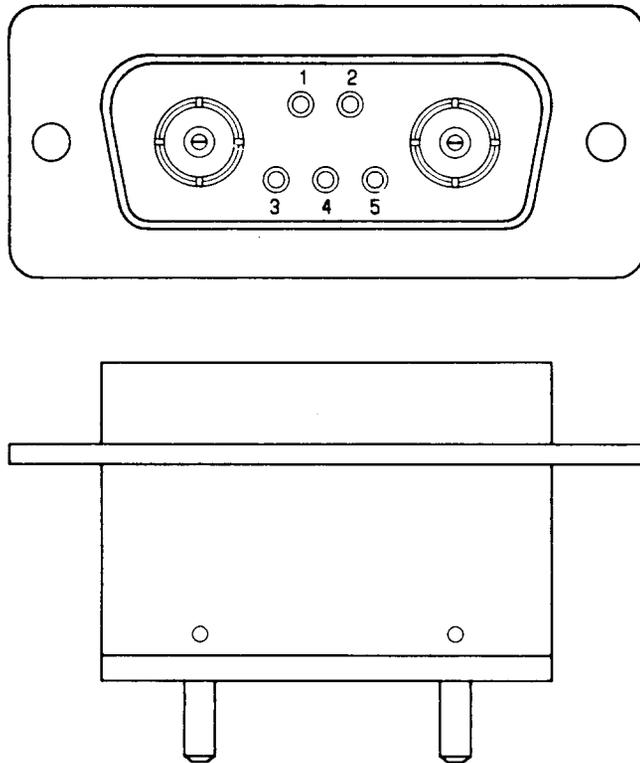

Fig. 3—KS-20938, L1 or L2 Connector
**2.03 KS-20938, L1 and L2:** The KS-20938, L1 and L2 (Fig. 3) are male connectors, consisting of a metal shell, molded insulators, and gold-plated pin contacts; they are arranged to accommodate KS-20939, L1 coaxial contacts. The fixed pin contacts may be arranged to filter electromagnetic interference from the power leads. These connectors will mate with KS-19771, L24 connectors, which are equipped with two KS-19820, L5 contacts. These connectors are restricted for use to the 76- and 77-type oscillators in the L5 Carrier System.